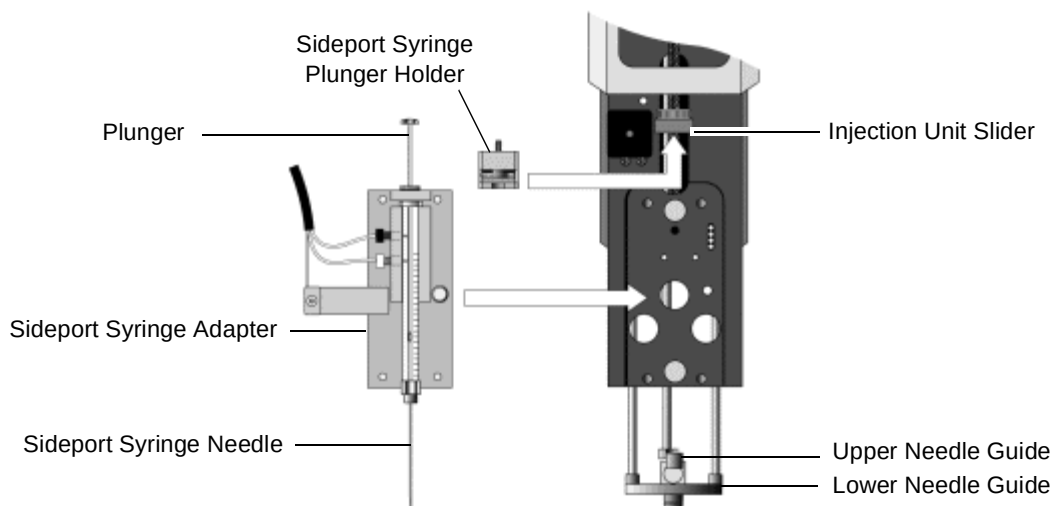

Figure 2-32 Installing the Sideport Syringe Plunger Holder
3. Screw the sideport syringe plunger holder into the injection unit slider (Figure 2-32).